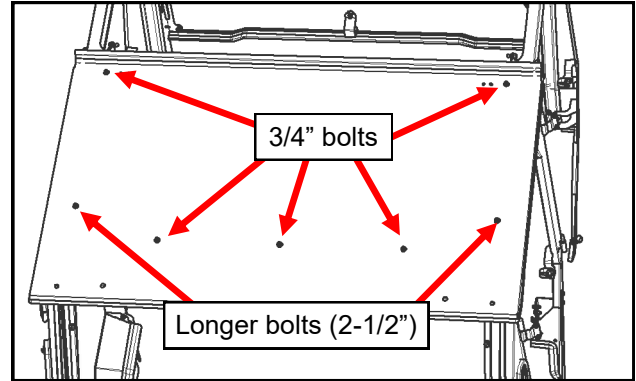

Fig. 11.2 (Front Canopy)
**11.2** Per figure 11.2, place the front canopy on top of the cab and align to the holes in the headers and windshield support. Insert the longer 1/4-20 bolts with plastic washers through the outer, front holes in the canopy, through the holes in the ROPS and through the lower flange of the headers and secure with nuts. Insert shorter 1/4-20 bolts with plastic washers through the remaining holes through the canopy as shown and secure with nuts.